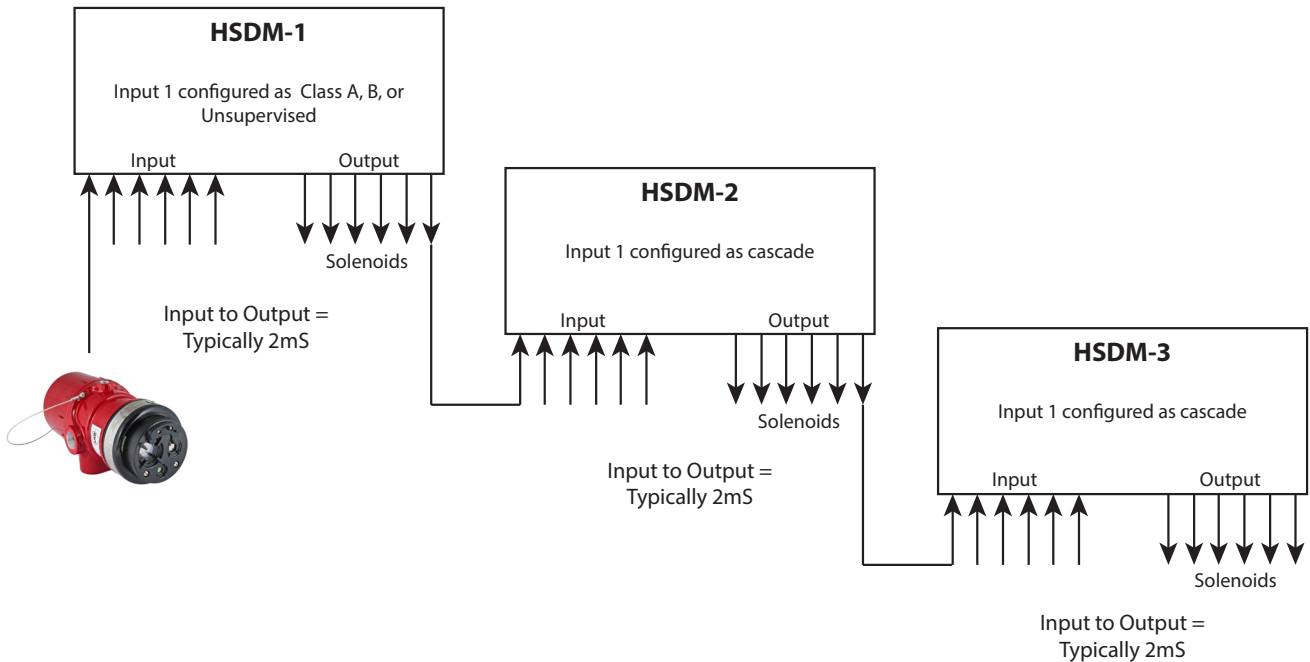

Figure 4—HSDM Cascade Example #1
In the example portrayed in Figure 4, the activation of an input on HSDM-1 will result in the activation of five (5) solenoids typically within 2mS of the initial activation, five (5) additional solenoids typically within 4mS from the initial activation, and an additional six (6) solenoids typically within 6mS from the initial activation. A description of the sequence of events follows: